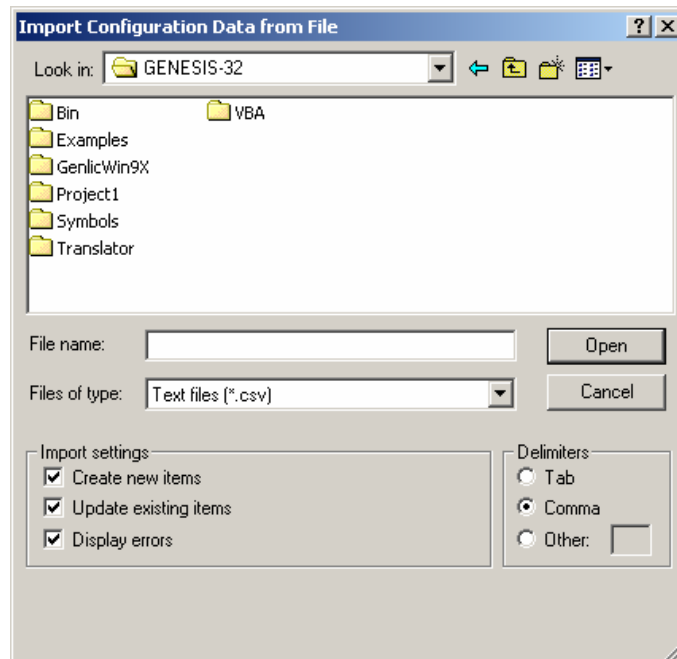

Figure D.8. Importing Configuration Data From a .csv File
9. Select **Import CSV** from the **File** menu, and browse to the folder where you saved the .csv file in step 1 above, as shown in **Figure D.8**. Make sure you use the same delimiter option that was used while exporting the .csv file. Check all check boxes in the **Import Settings** group.